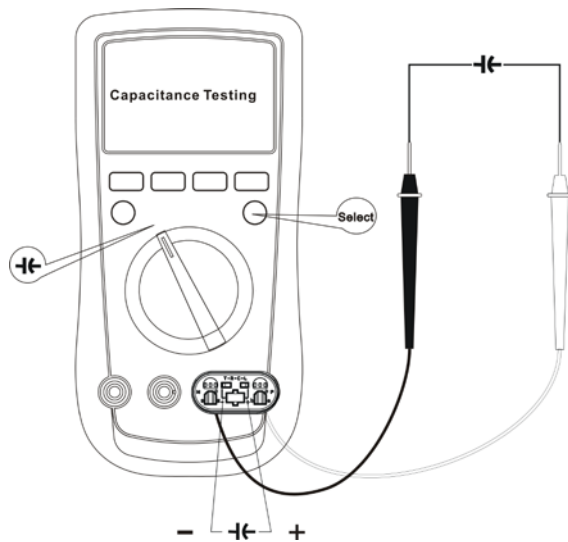

Figure 10
G. Capacitance Testing (see figure 10)